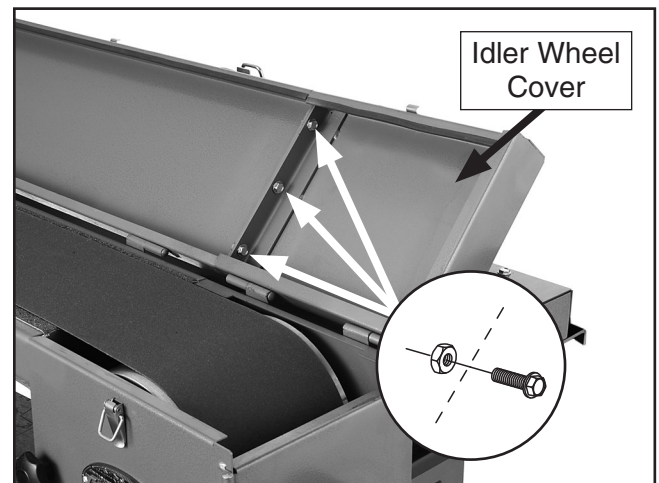

Figure 22. Platen cover connection.
12. Open the platen cover, align it with the idler wheel cover, then secure the two together with (3) $\frac{1}{4}$ -20 x $\frac{1}{2}$ flange bolts and (3) $\frac{1}{4}$ -20 hex nuts, as shown in **Figure 22**. Close and latch the platen cover.